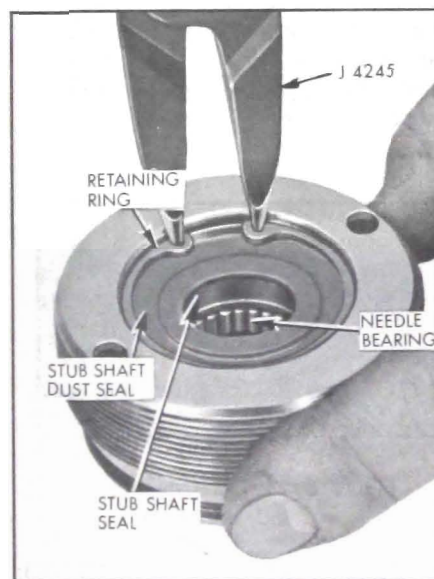

Figure 8-36—Removing Stub Shaft Seal Retaining Ring
3. Remove stub shaft seal retaining ring using No. 3 Truarc Pliers J-4245 and remove and discard dust seal. See Figure 8-36.